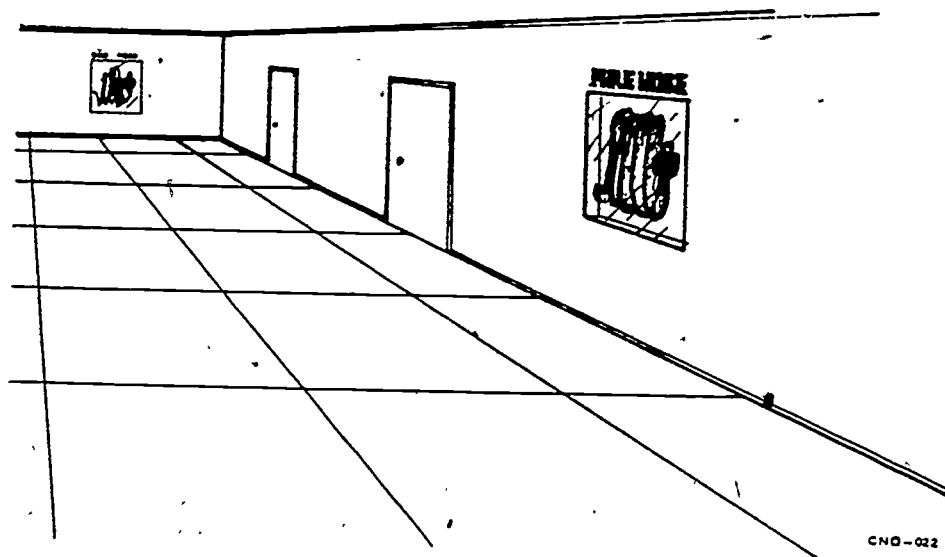

Figure 46. Standpipe in Building.
**STANDPIPE SYSTEMS.** Standpipes, as shown in figure 46, provide a constant source of water for first aid firefighting. They are designed to be used at all floor levels by either building occupants or the fire department but should not be relied upon for total extinguishment of a fire. They improve the protection of excessively high buildings and poorly accessible areas.